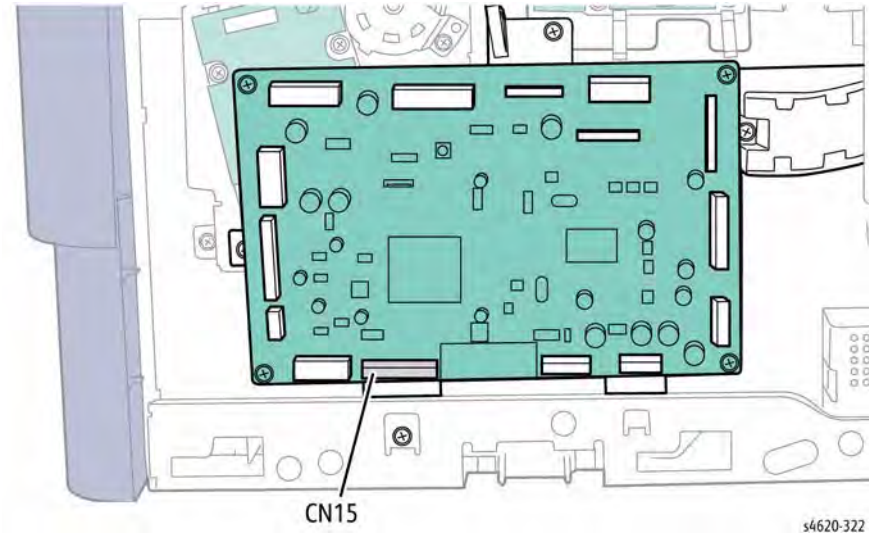

Figure 1 Disconnect CN15 from the MCU Board
4. Disconnect CN15 from the MCU Board, Figure 1.